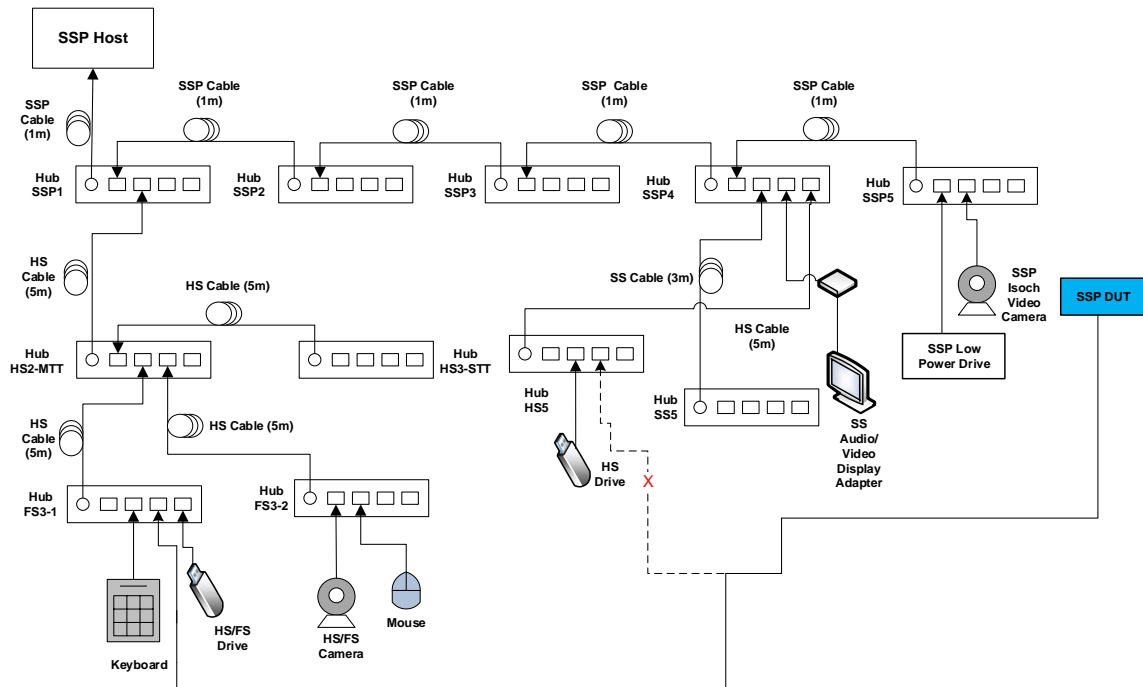

Figure 2-7: Topology Change 3 - Low/Full-Speed capable devices only
- While operating the devices, attach the Device Under Test to port 3 on Hub FS3-1 as shown below in Figure 2-7 and Figure 2-8.